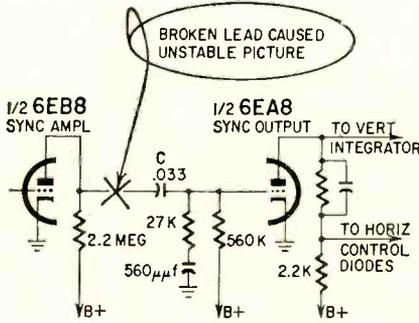

Fig. 10—Poor sync was traced down to a broken capacitor lead.
**Conclusion:** Sync signal being attenuated between plate of first sync amplifier and grid of sync output. Investigation disclosed that the wire lead of capacitor C had broken off (Fig. 10).